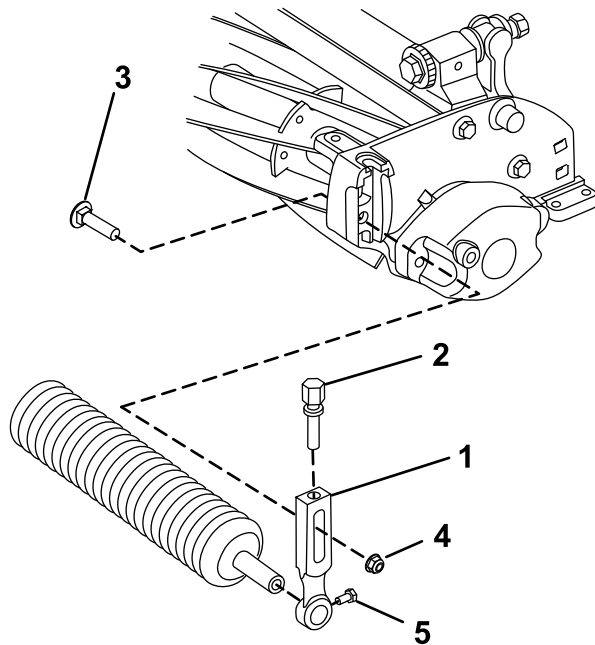

Figure 3
1. Remove the plow bolt, washer, and flange nut securing one of the height-of-cut arms to the cutting unit side plate (Figure 3).
4. Slide the height-of-cut arm onto the roller shaft (Figure 3).
5. Loosely secure the roller to the cutting unit with the height-of-cut arm and fasteners previously removed (Figure 3).
7. Tighten the roller-mounting screws (Figure 3).
2. Loosen the roller-mounting screws in the height-of-cut arms (Figure 3).
3. Slide the roller shaft into the height-of-cut arm on the opposite end of the cutting unit (Figure 3).